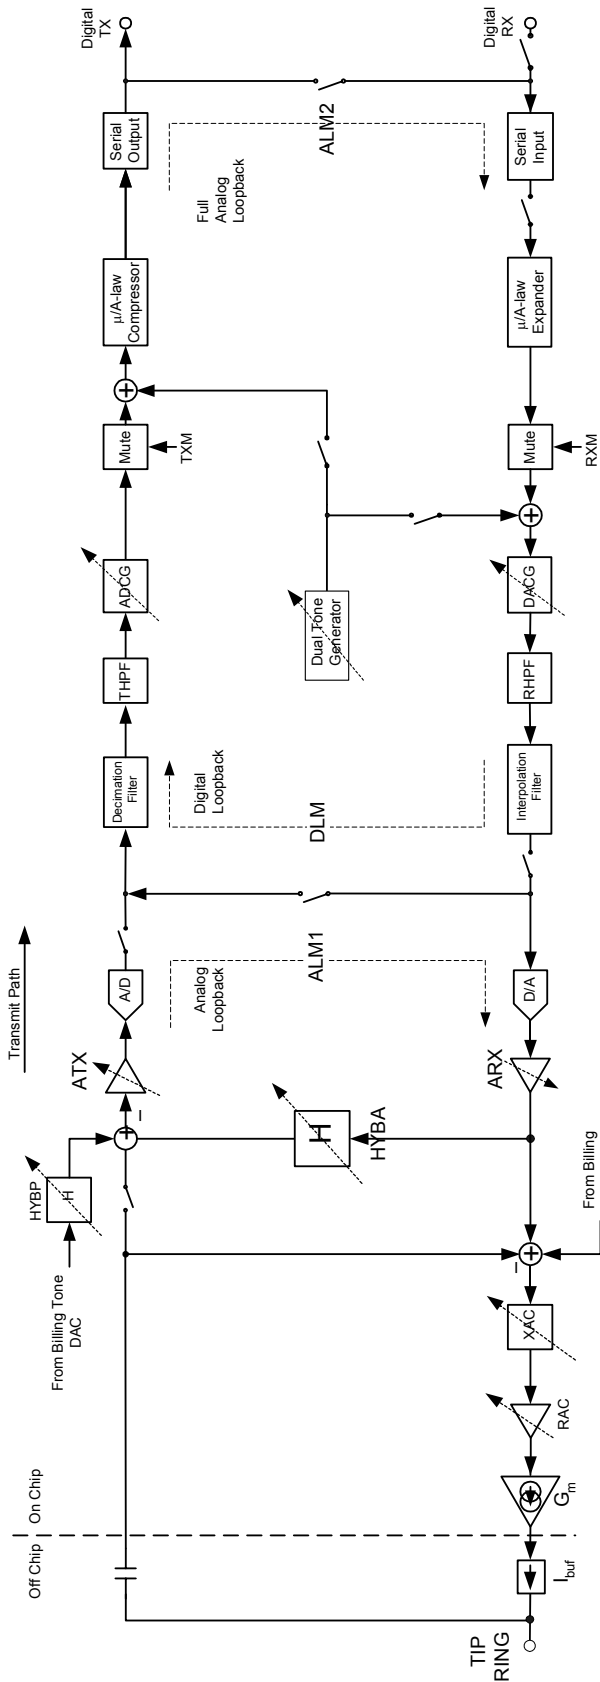

Figure 22. AC Signal Path Block Diagram
Unlike traditional SLICs, the codec function is integrated into the ProSLIC. The 16-bit codec offers programmable gain/attenuation blocks and several loop-back modes. The signal path block diagram is shown in Figure 22.
The block diagram for the voice-band signal processing paths are shown in Figure 22. Both the receive and the transmit paths employ the optimal combination of analog and digital signal processing to provide the maximum performance while, at the same time, offering sufficient flexibility to allow users to optimize for their particular application of the ProSLIC. All programmable signal-processing blocks are symbolically indicated in Figure 22 by a dashed arrow across them. The two-wire (TIP/RING) voice-band interface to the ProSLIC is implemented using a small number of external components. The receive path interface consists of a unity-gain current buffer,  $I_{BUF}$ , while the transmit path interface is simply an ac coupling capacitor. Signal paths, although implemented differentially, are shown as single-ended for simplicity.
The ProSLIC provides programmable transhybrid balance with gain block H. (See Figure 22.) In the ideal case where the synthesized SLIC impedance matches exactly the subscriber loop impedance, the transhybrid balance should be set to subtract a  $-6$  dB level from the transmit path signal. The transhybrid balance gain can be adjusted from  $-2.77$  dB to  $+4.08$  dB around the ideal setting of  $-6$  dB by programming the HYBA[2:0] bits of the Hybrid Control register (direct Register 11). Note that adjusting any of the analog or digital gain blocks will not require any modification of the transhybrid balance gain block, as the transhybrid gain is subtracted from the transmit path signal prior to any gain adjustment stages. The transhybrid balance can also be disabled, if desired, using the appropriate register setting.
- The full analog loopback (ALM2) tests almost all the circuitry of both the transmit and receive paths. The compressed 8-bit word transmit data stream is fed back serially to the input of the receive path expander. (See Figure 22.) The signal path starts with the analog signal at the input of the transmit path and ends with an analog signal at the output of
- An additional analog loopback (ALM1) takes the digital stream at the output of the A/D converter and feeds it back to the D/A converter. (See Figure 22.) The signal path starts with the analog signal at the input of the transmit path and ends with an analog signal at the output of the receive path. This loopback option allows the testing of the analog signal processing circuitry of the Si3215 completely independently of any activity in the DSP.
- The full digital loopback tests almost all the circuitry of both the transmit and receive paths. The analog signal at the output of the receive path is fed back to the input of the transmit path by way of the hybrid filter path. (See Figure 22.) The signal path starts with 8-bit PCM data input to the receive path and ends with 8-bit PCM data at the output of the transmit path. The user can bypass the companding process and interface directly to the 16-bit data.
Real and complex two-wire impedances are realized by internal feedback of a programmable amplifier (RAC) a switched capacitor network (XAC) and a transconductance amplifier ( $G_m$ ). (See Figure 22.) RAC creates the real portion and XAC creates the imaginary portion of  $G_m$ 's input.  $G_m$  then creates a current that models the desired impedance value to the subscriber loop. The differential ac current is fed to the subscriber loop via the ITIPP and IRINGP pins through an off-chip current buffer ( $I_{BUF}$ ), which is implemented using transistor Q1 and Q2 (see Figure on page 20).  $G_m$  is referenced to an off-chip resistor ( $R_{15}$ ).